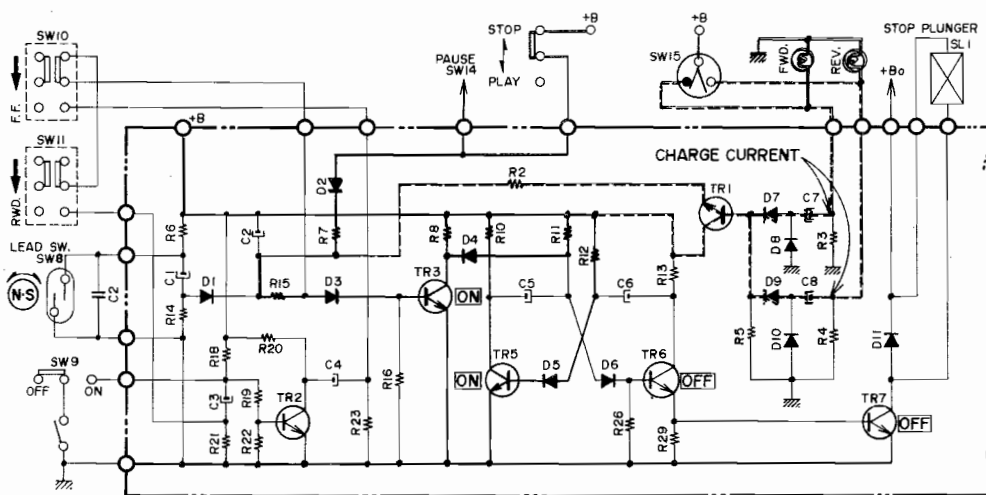

Fig. 44
5. SYSCON MALFUNCTION PREVENTION CIRCUIT (Refer to Fig. 44)
- 1) When the Power Switch is turned ON, power is supplied to the syscon circuit. However, the various transistors inside the syscon must be maintained at a stabilized condition as shown in Fig. 44.